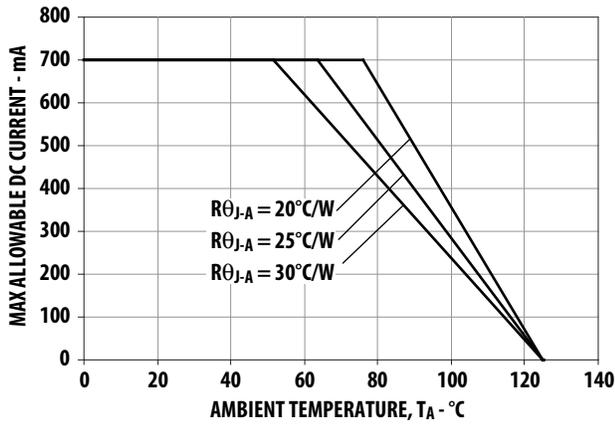

Figure 10. Maximum Forward Current vs. Ambient Temperature. Derated based on T_{JMAX} = 125°C, R_{θJ-A} = 20°C/W, 25°C/W and 30°C/W.
1. Derate linearly based on Figure 10 for AllInGaP and Figure 22 for InGaN.